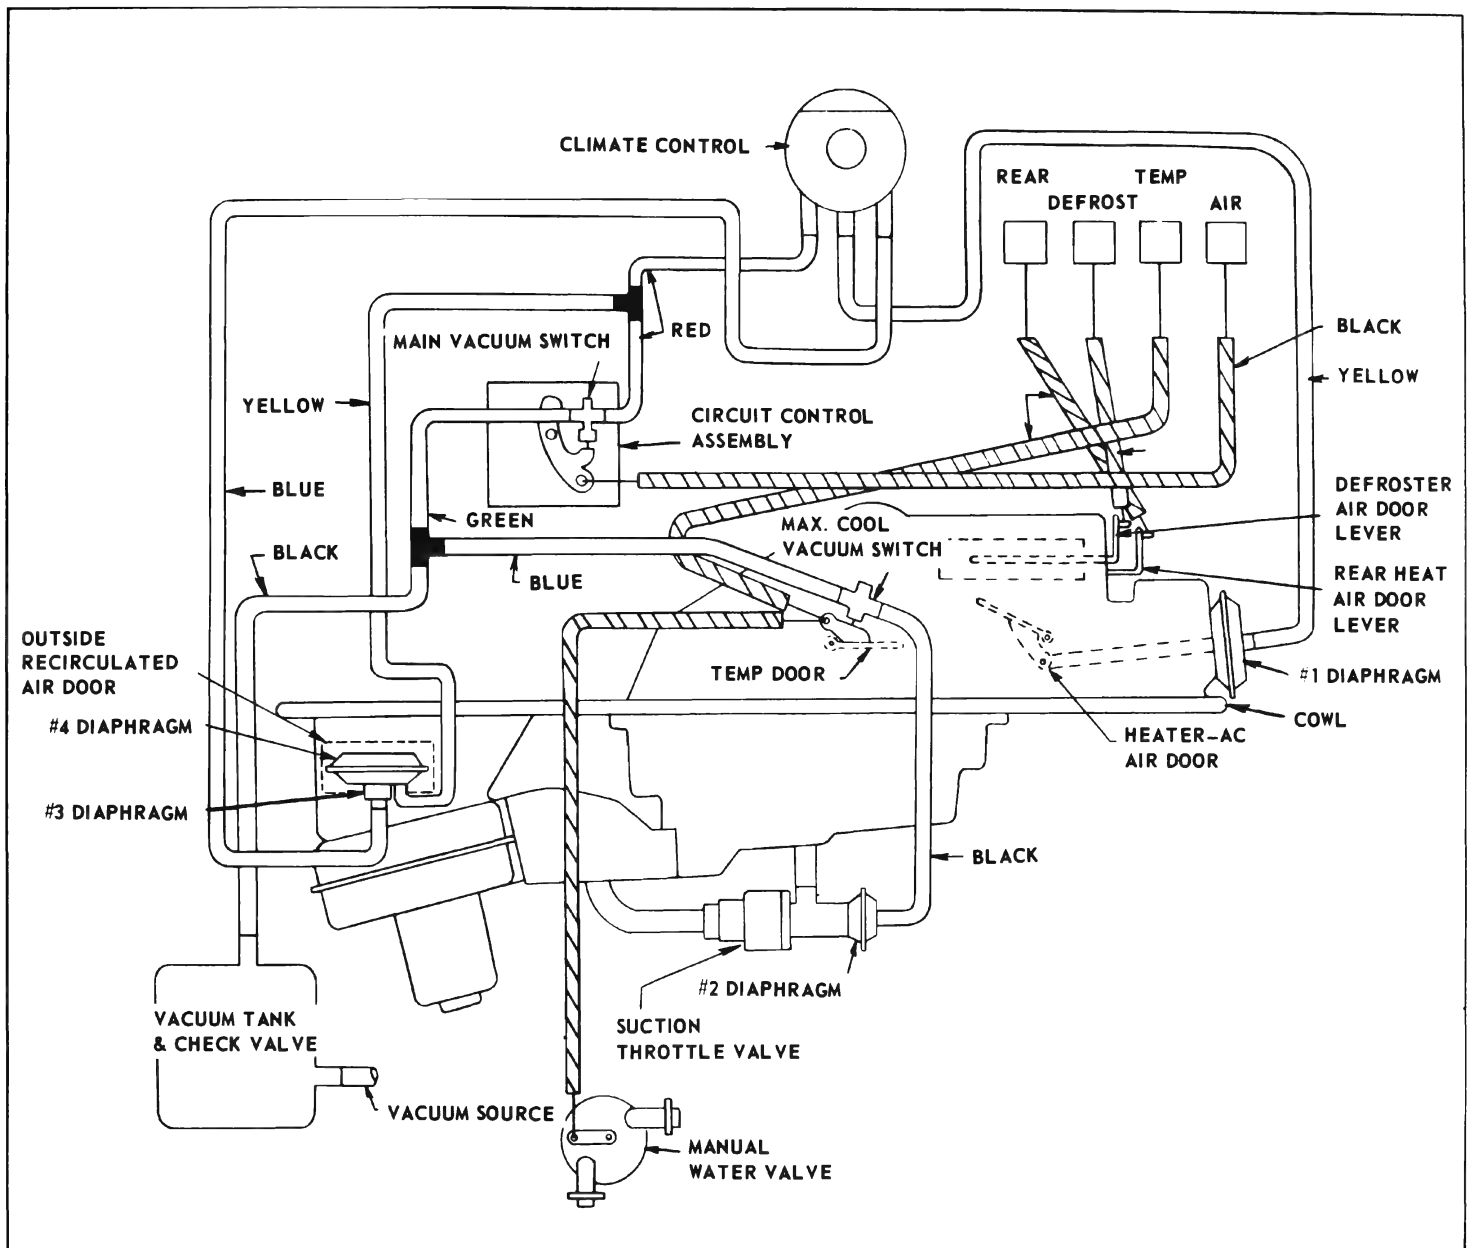

Figure 11-73—Vacuum Circuit and Control Wire Layout - 4400, 4600 and 4800 Series
The AIR lever control wire is attached to a circuit control assembly located on the heater case. See Figures 11-73 and 11-79. Included in the circuit control assembly is an electrical circuit control switch, blower
the temperature door. See Figure 11-73. Located at the temperature door is the max. cooling vacuum switch which controls the vacuum to the suction throttle valve vacuum diaphragm. Also, a second wire connects from the temperature door to the manual water valve. First movement of the TEMP lever from off, opens the water valve to allow water flow through the heater core. It also positions the temperature door to allow some air to pass through heater core, and closes the vacuum switch to set the suction throttle valve at its maximum cooling position. Further movement of the lever only positions the temperature door to allow more air to pass through the heater core.
1. An outside recirculated air door is located on blower and air inlet assembly. See Figure 11-73 and 11-74. This air door is operated by a dual stage (#3 and #4) vacuum diaphragm.
Two vacuum switches are used. See Figure 11-73. The main vacuum switch, which is operated by the Air lever and located on the circuit control assembly, is open (allows vacuum to pass through) when its plunger is fully released. The max. cooling vacuum switch, which is operated by the TEMP lever wire, is open when its plunger is fully depressed. The two vacuum switches must not
NOTE: If the vacuum hoses are properly attached (Figure 11-73 and 11-78) and lever control wires properly adjusted (par. 11-17, subpar. "d"), complaint may be caused by the items listed on this chart.